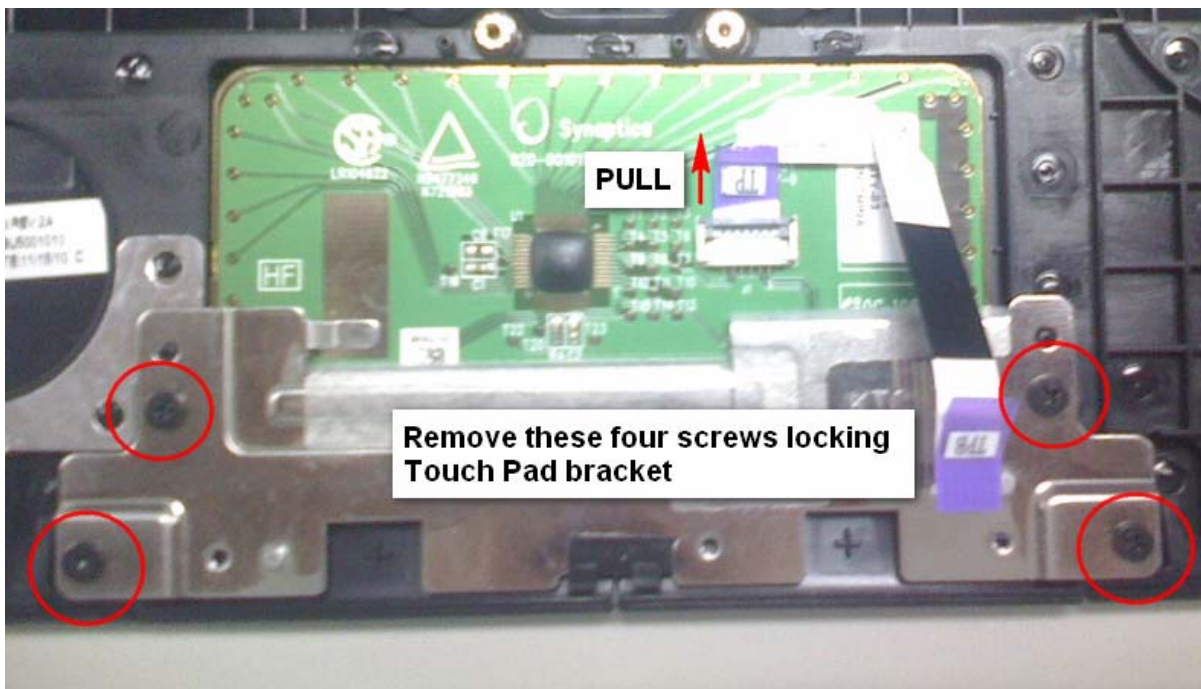

Figure 4-7-3 Remove the touch pad bracket
6. Loosen SCREW M2.0*3.0F 4PCS screws and pull the cable from the connector on Touch Pad to take off Touchpad bracket. Then Touch Pad can be got (see Figure 4-7-3)